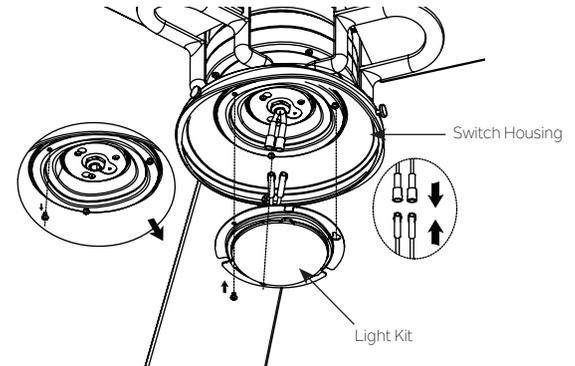

Fig. 21
Step 1. Hold the light kit close to the switch housing and connect the WHITE wires from the light kit and fan by pushing the connectors together. Follow the same procedure with the BLACK wires. (Fig. 21)
Step 2. Tuck the connections neatly into the light kit. Remove one of three screws pre-installed on the switch housing and keep for later use. Loosen the other two (do not remove). Place the two slot holes on the light kit over the 2 screws previously loosened from the switch housing. Rotate the light kit until it locks in place at the narrow end of the key holes. Secure by tightening the 2 screws previously loosened and the one previously removed. (Fig. 21)